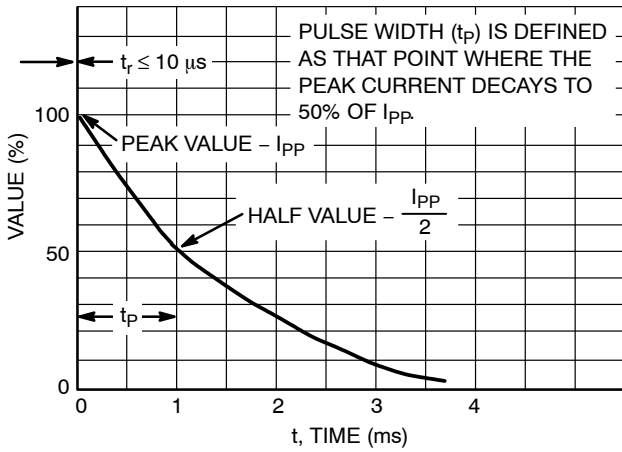
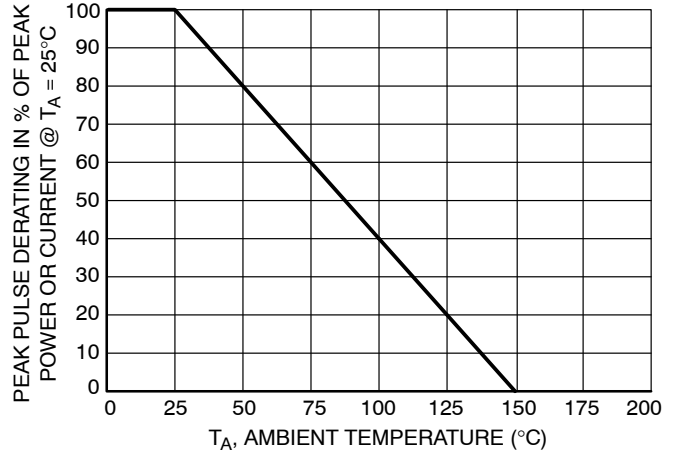

Figure 5. Pulse Waveform
Figure 6. Pulse Derating Curve
- Peak Power – 24 W @ 1.0 ms (Unidirectional), per Figure 5 Waveform
- Non-repetitive current pulse per Figure 5 and derate above $T_A = 25^\circ\text{C}$ per Figure 6.
- Surge current waveform per Figure 5 and derate per Figure 6